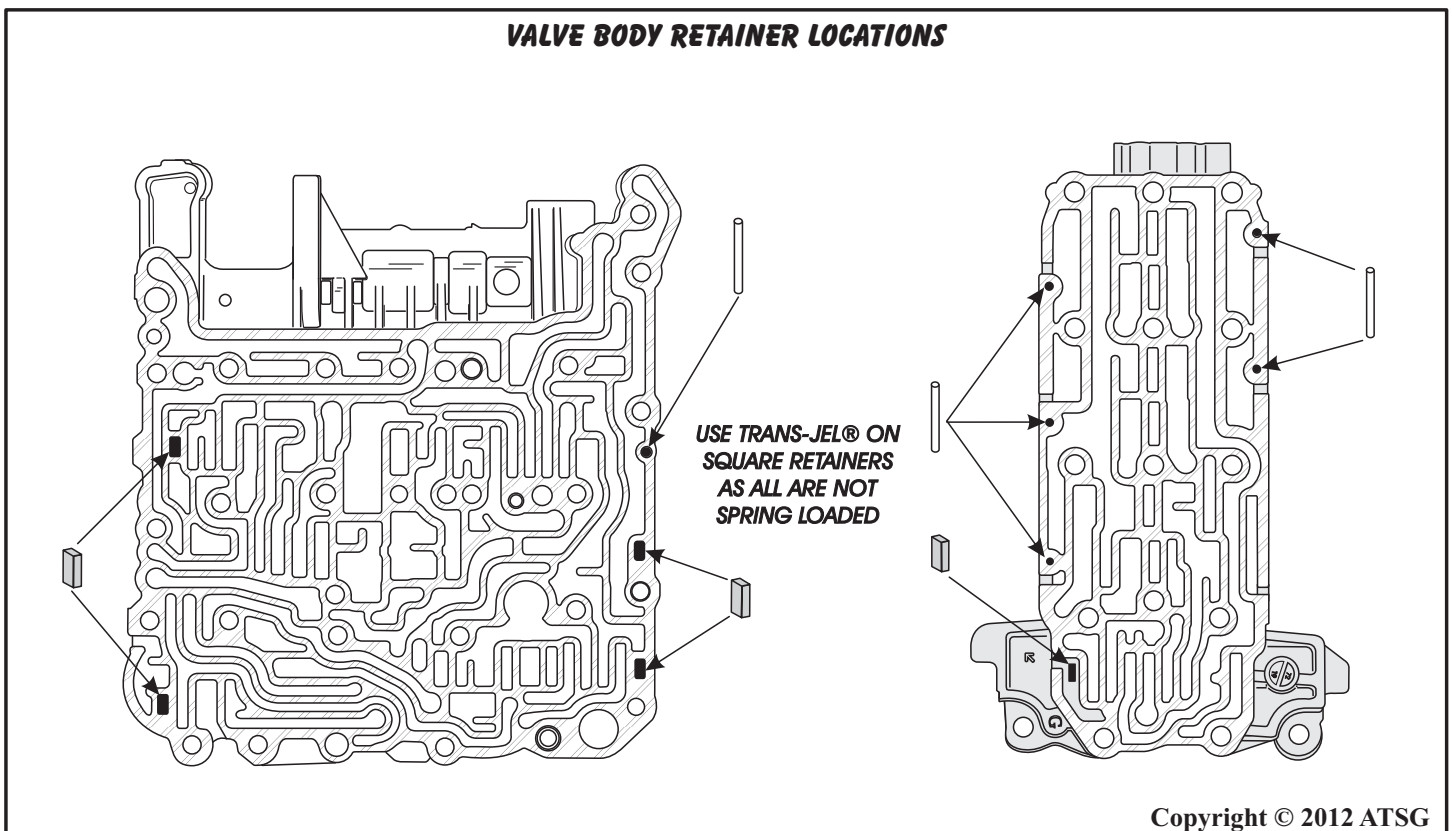

Figure 216
21. The main valve body and solenoid valve body retainer locations have been provided for you in Figure 216.